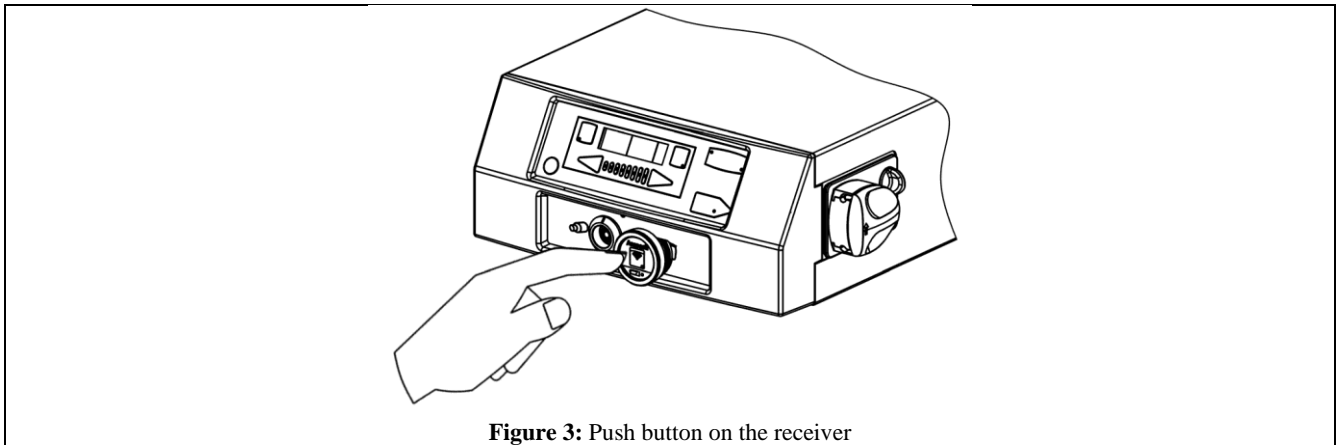
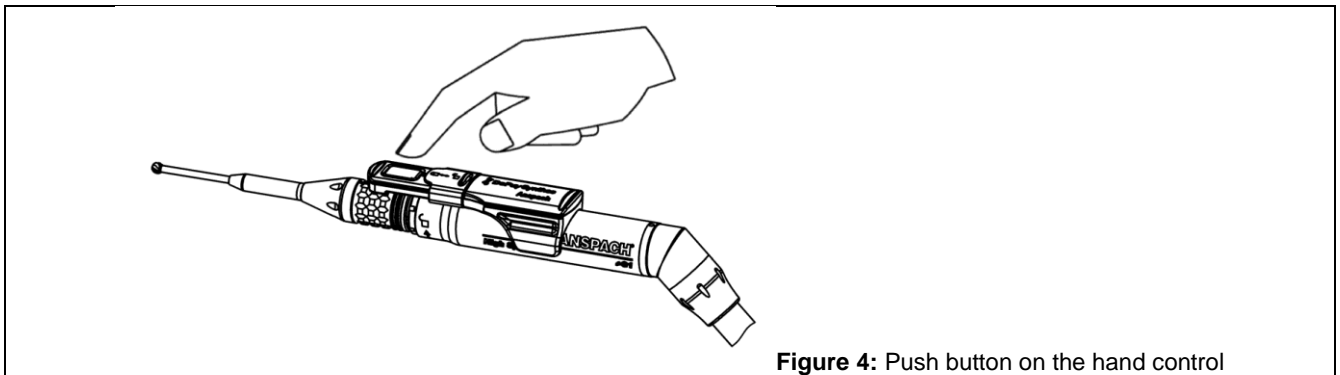

Figure 3: Push button on the receiver
Figure 4: Push button on the hand control
4. Pair Handpiece. Press and release the button on the receiver (See Figure 3) and the hand control (See Figure 4) within 30 seconds to complete the pairing. When pairing is complete you will see the blue light go from flashing to solid on the receiver.